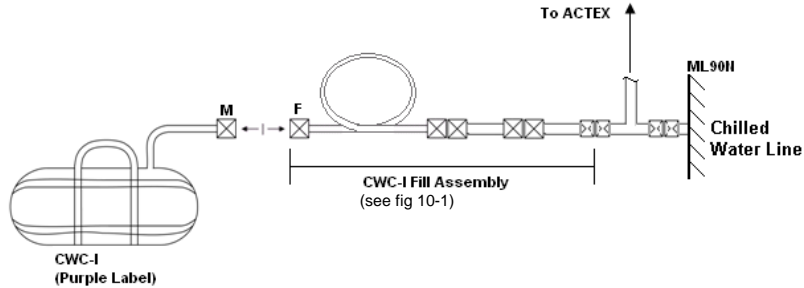

Figure 10-6.- CWC-I fill termination.
- ML90N 1. CWC-I ←|→ CWC-I Fill Assembly (see fig 10-6)